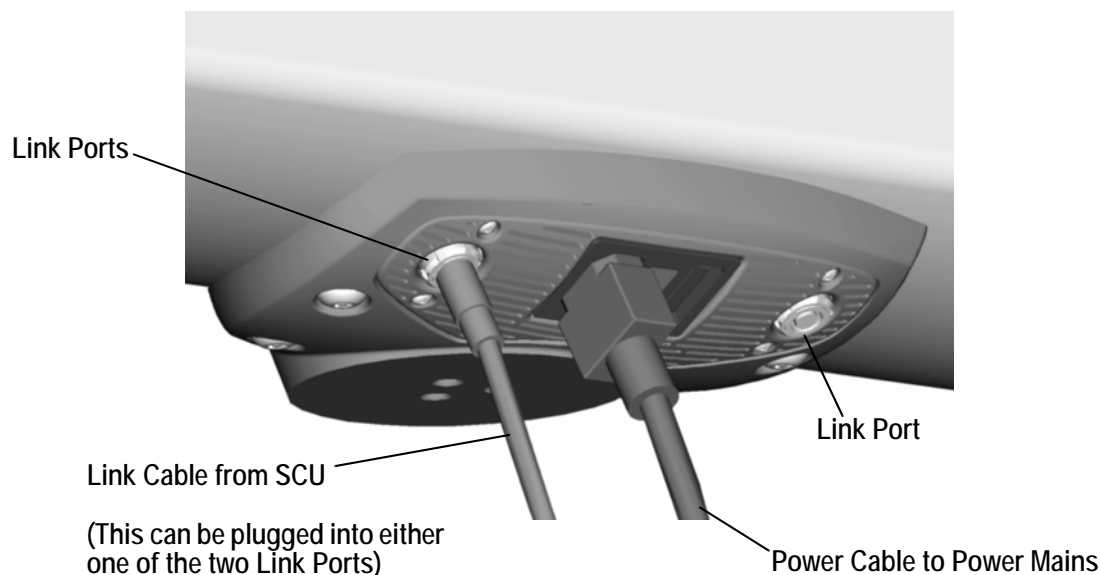

Figure 3-4 Cable Connections to the Position Sensor
4. Connect cables to the centre mount on the bottom of the Position Sensor, as shown in Figure 3-4 below: